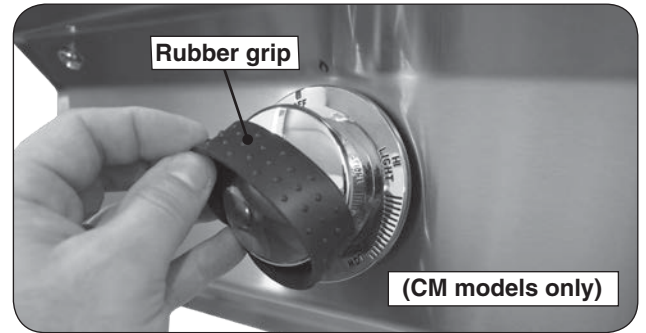

Fig. 31-1 Rubber grips removal (if applicable)
2. For CM models, remove the rubber grip from a control knob (see Fig. 31-1).